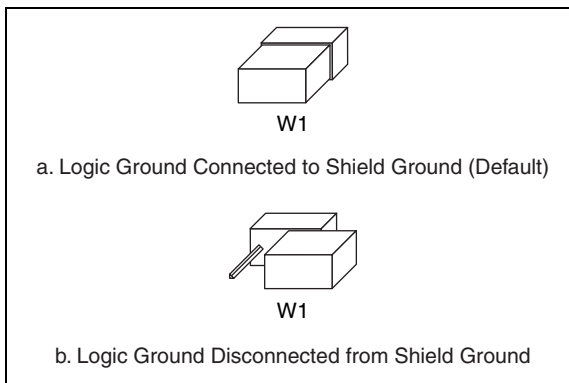

Figure 12. NEC-GPIB/TNT Ground Configuration Jumper Settings
2. Remove the jumper and place it across only one of the jumper pins, as shown in Figure 12.